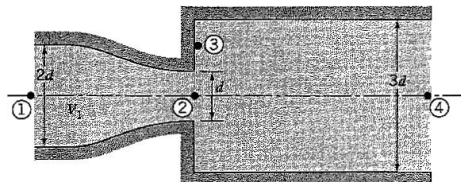

Figure P4.6
4.6 For the duct flow shown in Figure P4.6, the pressure at the exit (point 4) is atmospheric, the density ρ is constant, and the duct is of constant width w .